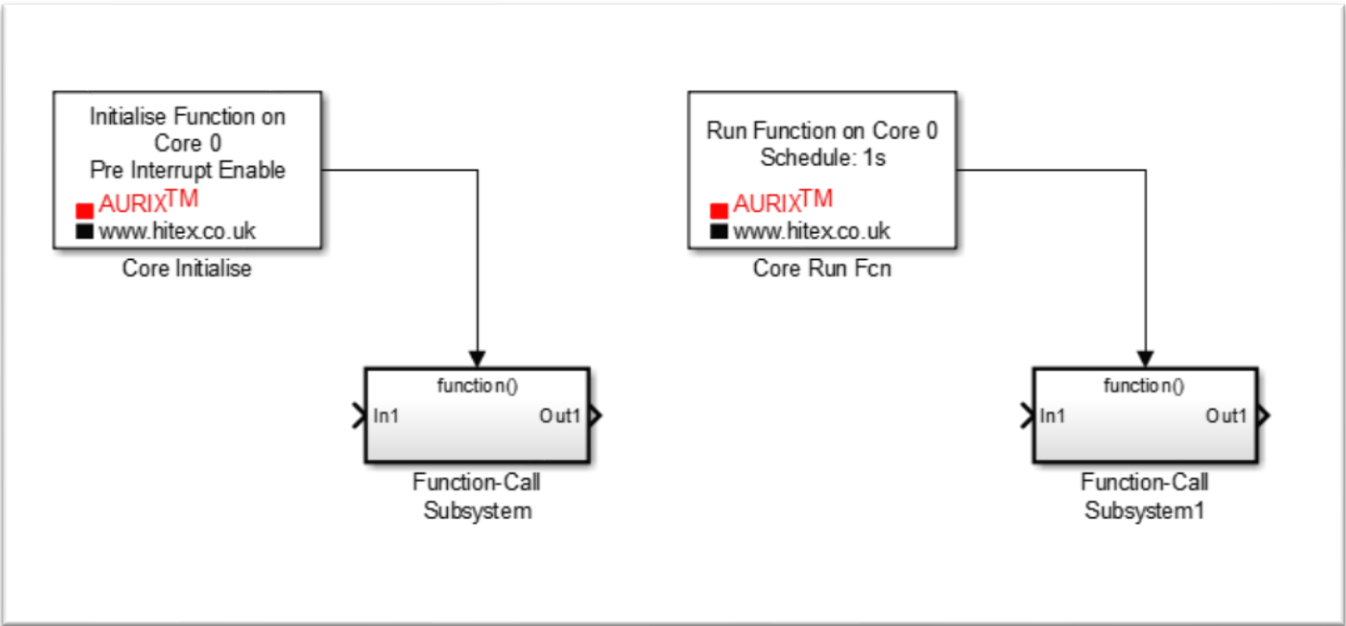

Figure 10 Blinky Application Top Level
3. These are function call blocks and so also place two copies of the Function-Call Subsystem block on the model. Connect the blocks as shown in Figure 10.